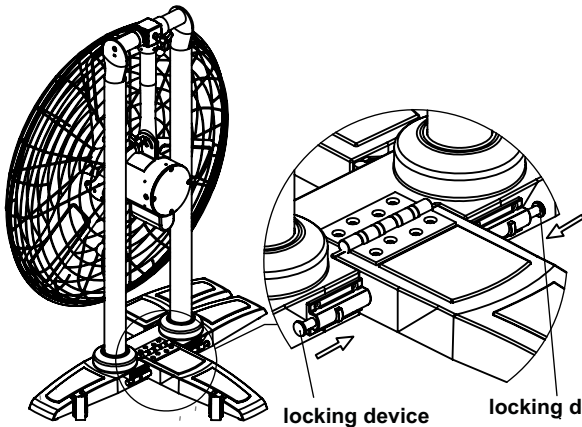

Figure 4
3. Secure the front footing support using the right and left side locking device shown below. Push until the locking device fully engages. See Figure 4.